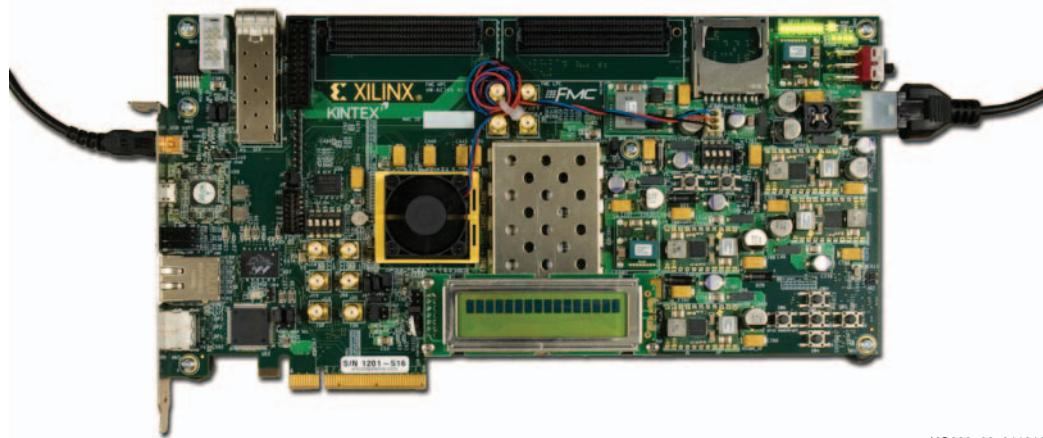

Figure 3: KC705 with the UART and Power Cable Attached
1. With the board switched off, plug a USB-to-Mini-B cable into the UART port of the KC705 board and your PC (see Figure 3).